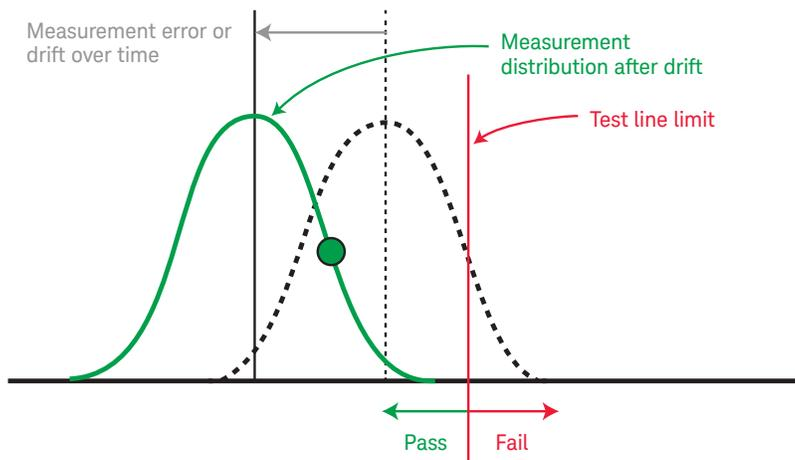

Figure 5. False pass drift
Now let's drift the other way. Figure 5 illustrates this event. In this case the measurement error drifts such that all the DUTs are now passing. As this is occurring, and since it is a gradual drift, production would be happy in that all their efforts to reduce failures is "working". Bosses all the way up the chain are happy, and back patting is available for all. But as with all "good" things, this comes to an unhappy end. These false passes are getting to the customer and they are sending them back under warranty for replacement. And maybe even more important is that repair operation databases are not directly coupled with warranty return databases. This means that it will take a long time, if ever, to recognize any connection between the two at an operational level. The failures are still "zero", but the warranty costs from this instrument continue to mount. Now you have a case where these mounting false pass costs create additional demand for calibration.
- The test results have changed, either gradually, or all of a sudden, such that the yield has climbed to 100%. If there is no reasonable explanation for this change, there is a likelihood that there has been instrument drift or if the instrument has just come back from calibration or repair, the instrument is calibrated incorrectly and is passing true failures (Figure 5).